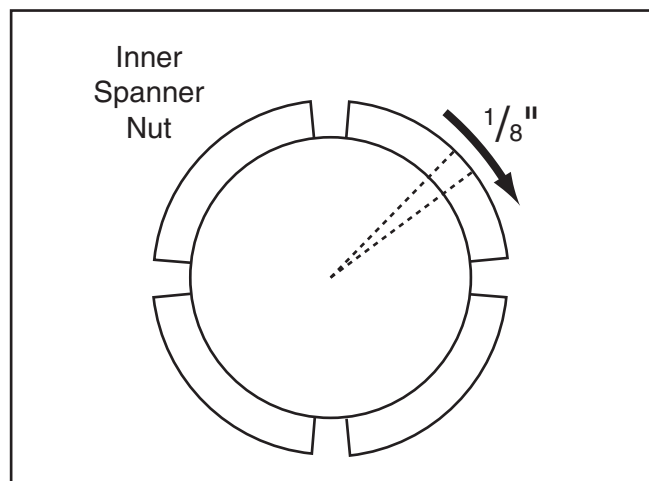

Figure 82. Turning inner spanner nut $\frac{1}{8}$ " clockwise.
10. When you are confident that you have adjusted the inner spanner nut until zero spindle end-play and preload exist, tighten the inner spanner nut an additional $\frac{1}{8}$ " of a turn clockwise to introduce the correct amount of spindle bearing preload (see **Figure 82**).